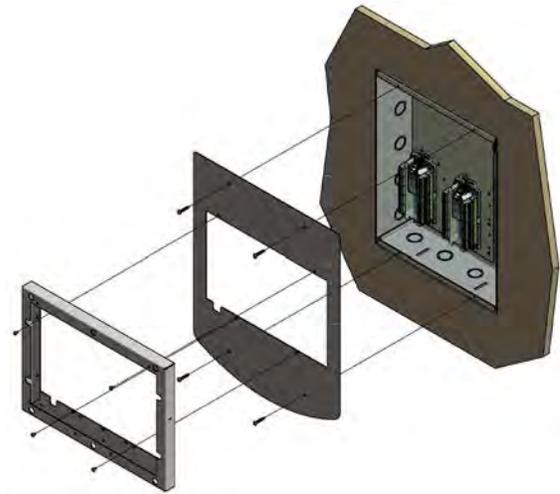

Figure 130: MEGA3™ Single Trim Plate Installation
1. Remove the trim ring from the standard trim plate and install the corresponding trim plate from retrofit option kit (4107220616) (Figures 130 & 131). Screws are provided in the option kit for attaching the trim ring to the trim plate. TotalAlert¹ Double also requires switching over the door lock set to the new trim plate.